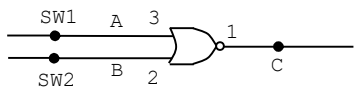

Figure 2-7
25. Wire the circuit shown in Figure 2-7. The inputs come from SW1 and SW2. You will measure the output voltage C at pin 1 of the 7402 IC.